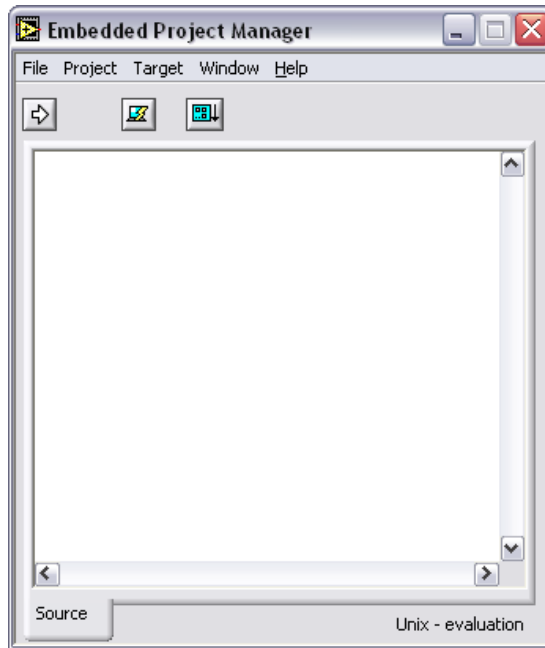

Figure 4. Embedded Project Manager Window
1. Select **Tools»Embedded Project Manager** to open the **Embedded Project Manager** window as shown in Figure 4.